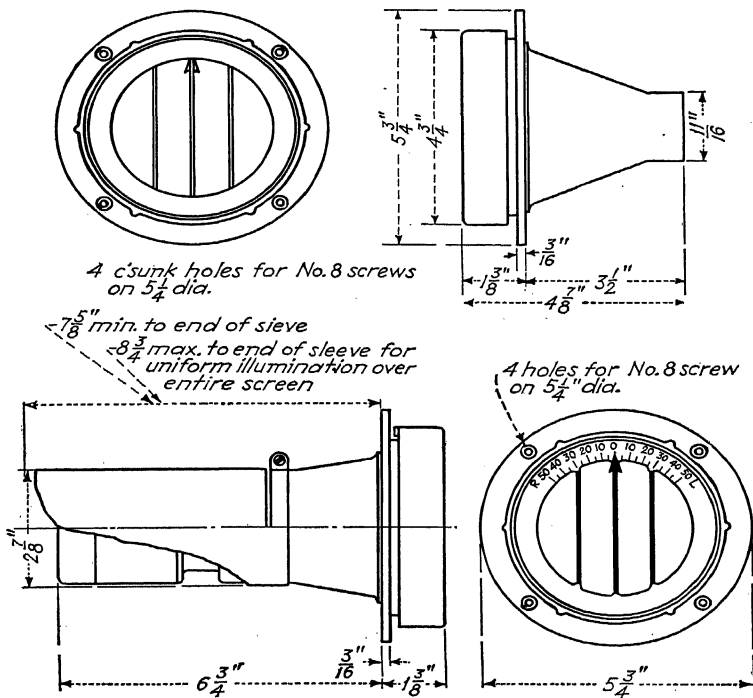

FIG. 63.—Installations diagram of Pioneer drift indicator.
**Installation.**—To install, it is necessary to cut a hole in the floor of the plane of the proper size and fasten the drift indicator in place. It is very important to make sure that it is mounted so that the sight wires will be parallel to the fore-and-aft axis of the ship when the screen is set to a zero reading. Details are seen in Fig. 63.